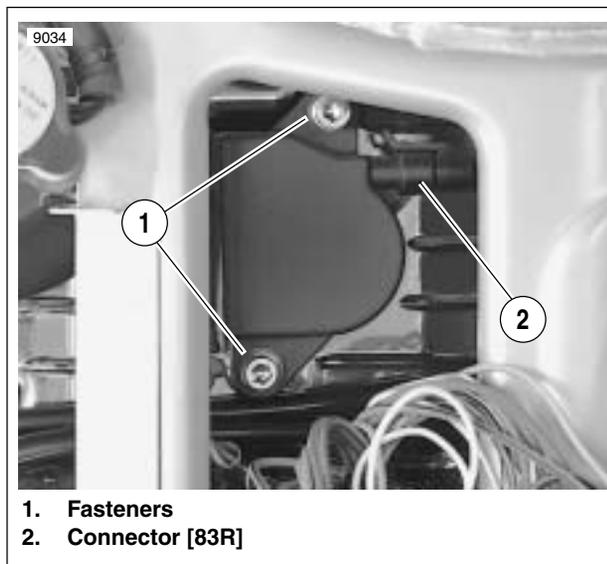

Figure 1-51. Rear Cylinder Coil
3. See Figure 1-51. Remove rear coil fasteners (1).
4. Detach connector (2) [83R] at rear coil, [83F] at front coil.